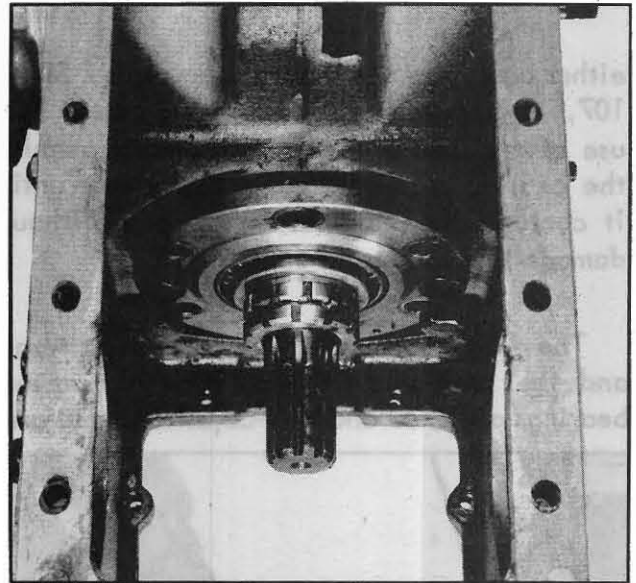

Fig. 261
5. Remove the six cap screws retaining the pinion bearing sleeve to the center housing. Pinion and bearing sleeve assembly can now be removed. It may be necessary to screw two bolts into the sleeve to force the pinion assembly out of the housing, as shown in Fig.261.